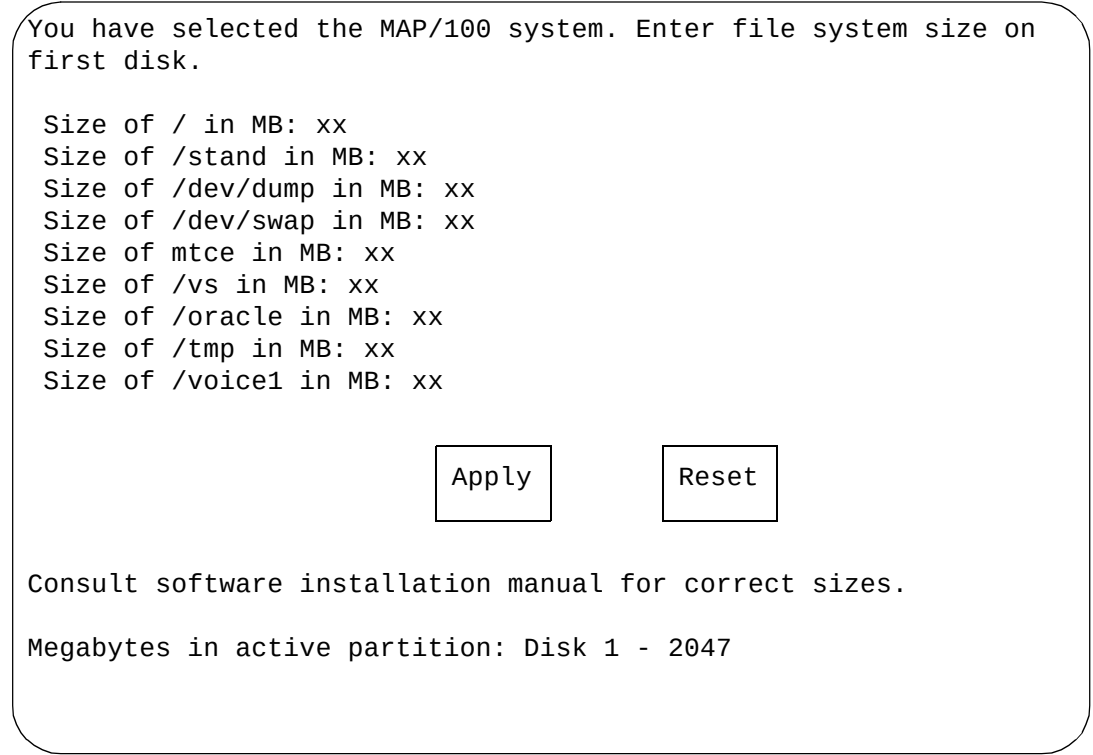

Figure 9-11. UnixWare Installation Set Slice Sizes Screen
- The system displays the UnixWare Installation Set Slice Sizes screen (Figure 9-11).